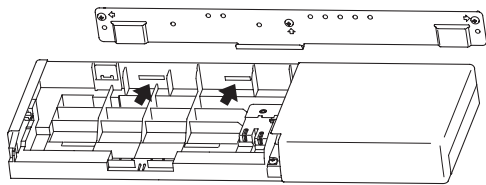

Fig. 12
10) Attach the 2 hooks at the back side of the Plasma Quad Connect ① to the installation plate ②. (Fig. 12)
11) Fix the Plasma Quad Connect ① to the wall with 2 screws ③. (Fig. 12)